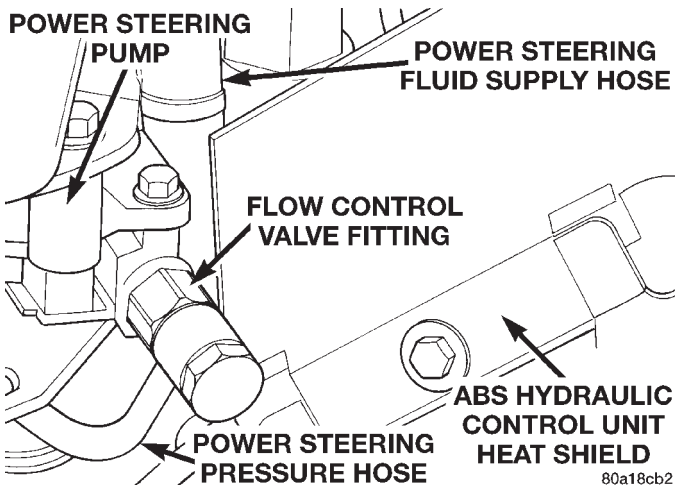

Fig. 26 Power Steering Fluid Pressure Hose Attachment To Pump
- (6) Remove the power steering fluid pressure hose from the pressure fitting on power steering pump (Fig. 26). Let remaining power steering fluid drain out of the power steering fluid supply hose, power steering pump and power steering fluid pressure hose. **After power steering fluid has drained out of pump and hose, install a cap on the power**
(7) Remove hose clamp, attaching power steering fluid supply hose to the power steering pump suction fitting (Fig. 26). Then remove power steering fluid supply hose from fitting. **Install a cap on suction fitting of power steering pump.**
(10) Remove the antilock brakes hydraulic control unit heat shield (Fig. 26) from the hydraulic control unit mounting bracket.
(13) Position power steering pressure hose on power steering pump, so hose is not contacting the pulley of power steering pump or the drive belt. Then tighten the Banjo Bolt to a torque of 34 N·m (25 ft. lbs.).
(14) Install heat shield on hydraulic control unit for the antilock brake system (Fig. 26).